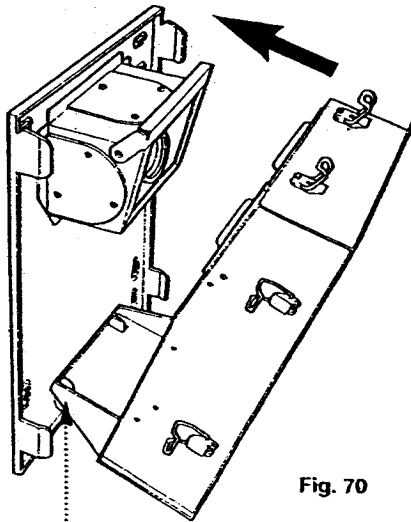

Fig. 70
2. Swing the top of the combustion box backwards against the top air box (Fig. 70).